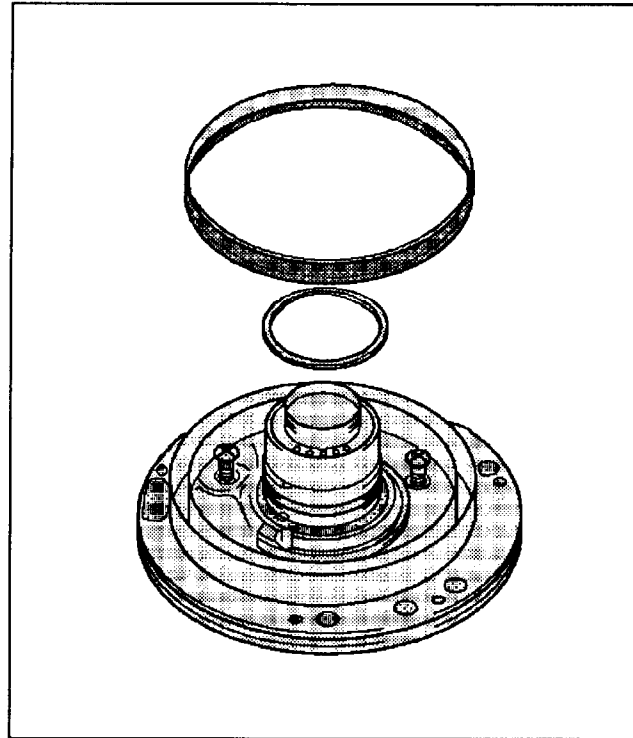

Figure 71
2. Remove the vulcanized B2 clutch piston from the pump assembly (See Figure 71).
3. Carefully remove the pump washer from the stator housing (See Figure 71).
4. Remove the 5 #30 Torx. bolts that hold the stator housing to the pump body and carefully lift the stator housing way from the pump (See Figure 71).